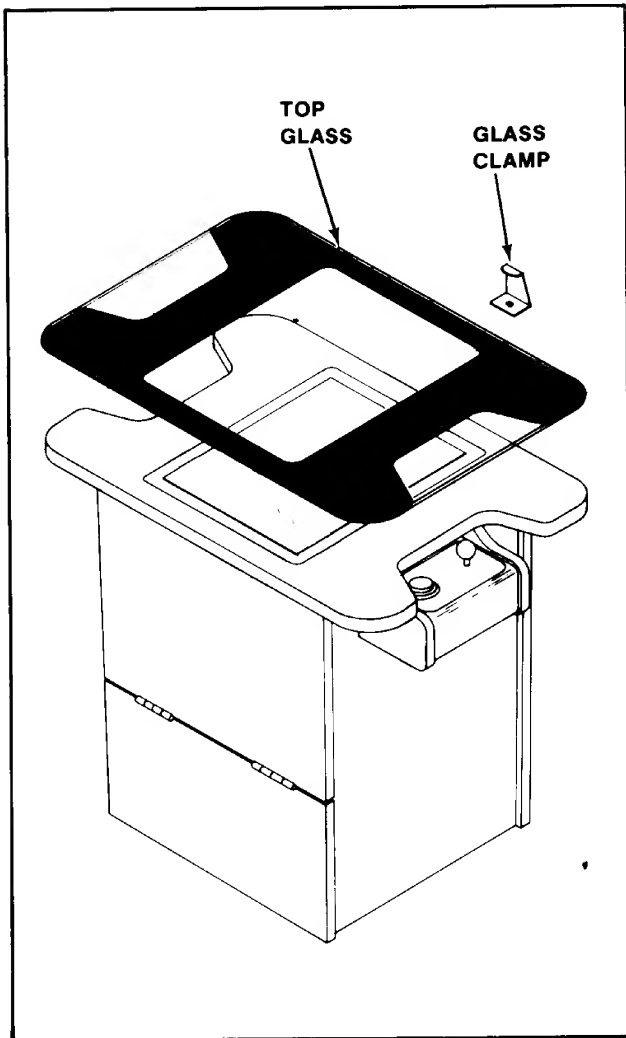

Figure 4-7 Removing Top Glass — Cocktail
3. COCKTAIL TABLE MODEL: See Figure 4-7.